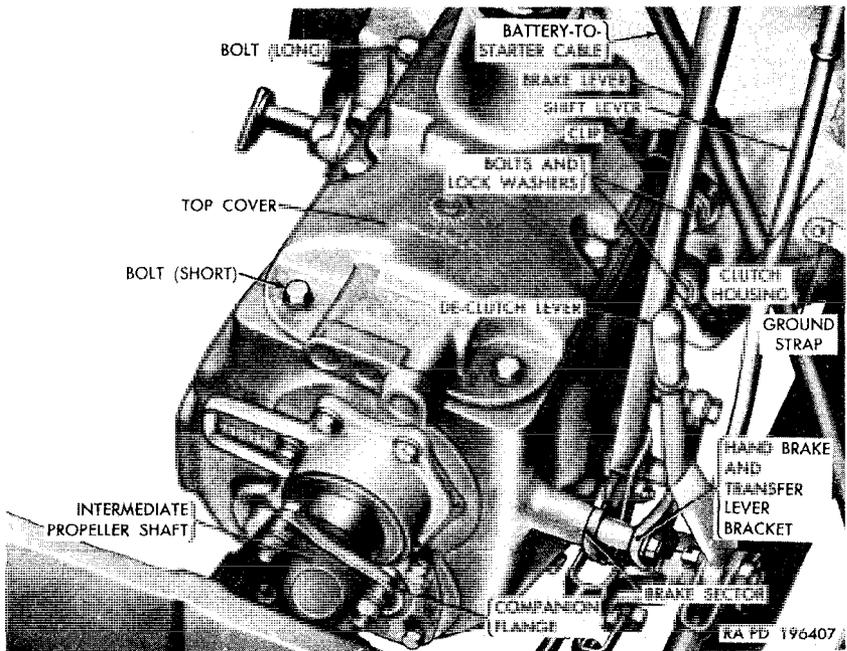

Figure 160. Transmission installed.
- (1) Remove the transmission access cover (par. 121g).
- (2) Disengage the battery-to-starter cable from the cable clip (fig. 160).
- (3) Install a $\frac{3}{8}$ -inch lockwasher and $\frac{3}{8}$ -16NC x $1\frac{1}{8}$ bolt for the left front bolt opening (fig. 160) and a $\frac{3}{8}$ -inch lockwasher and $\frac{3}{8}$ -16NC x $\frac{7}{8}$ bolt for each of the other five openings, attaching the cable clip at the right front corner. Tighten the bolts evenly.
- (4) Engage the battery-to-starter cable in the cable clip.
- (5) Install the transmission access cover (par. 122f).
- (2) Remove the three screws and lockwashers that secure the handbrake and transfer lever bracket to the right side of the transmission case.
- (3) Disengage the battery-to-starter cable from the clip on the transmission top cover (fig. 160).
- (4) Remove the four nuts, lockwashers, and bolts that secure the intermediate propeller shaft to the companion flange on the transmission (fig. 160). Secure the shaft to keep it off the floor.
- (5) Remove the four bolts and lockwashers that secure the transmission to the clutch housing. Using jacks or a dolly move the transmission straight back to disengage the main shaft from the clutch housing and the splined yoke of the winch drive shaft from the drive shaft. Lower the transmission and remove it.
- (6) If the transmission is to be replaced, remove the winch drive shaft rear universal joint from the power-takeoff drive shaft (par. 183a(4)).
- (1) Clean the machined surfaces of the transmission and the clutch housing thoroughly.
- (2) Install the winch drive shaft rear universal joint on the power-takeoff drive shaft (par. 183c(1) and (2)).
- (3) Using jacks or a dolly, position the transmission and move it forward to engage the transmission shaft in the clutch; at the same time, guide the winch drive shaft into the front yoke of the rear universal joint on the power-takeoff drive shaft, alining the universal joint journals. Do not attempt to force the transmission into the clutch by hammering or other extreme methods.
- (4) Install the four $\frac{9}{16}$ -inch lockwashers and $\frac{9}{16}$ -12NC x $1\frac{3}{4}$ bolts. Tighten the bolts evenly. Remove the jacks or dolly.
- (5) Connect the intermediate propeller shaft to the transmission companion flange and install the four $\frac{7}{16}$ -20NF x $1\frac{1}{4}$ bolts, $\frac{7}{16}$ -inch lockwashers, and $\frac{7}{16}$ -20NF nuts. Tighten the nuts evenly.
- (6) Engage the battery-to-starter cable in the clip on the transmission cover (fig. 160).